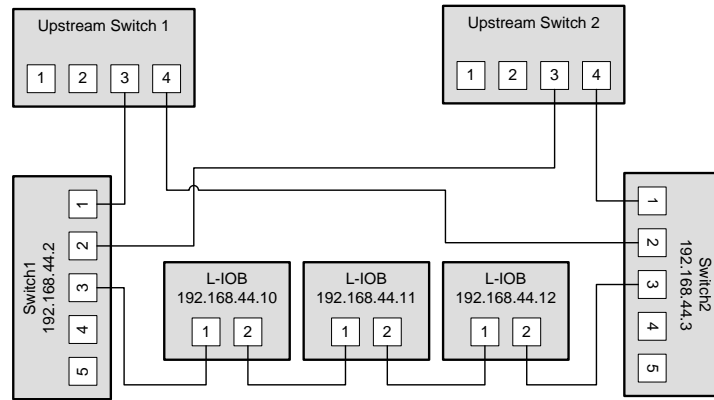

Figure 102: Ring Ethernet topology
**Ring topology:** In this setup, the devices are connected in a chain and each end of the chain is connected to a different upstream switch. This topology requires RSTP. If a single device is powered off, the RSTP will automatically recalculate the spanning tree so that all other devices in the chain are reachable. Only if two devices are power-off at the same time, the devices between them will not have an Ethernet connection. In Figure 102, the L-IOB devices with IP addresses from 192.168.44.10 to 192.168.44.12 are connected in this way. The recommended maximum number of daisy-chained devices is 20.